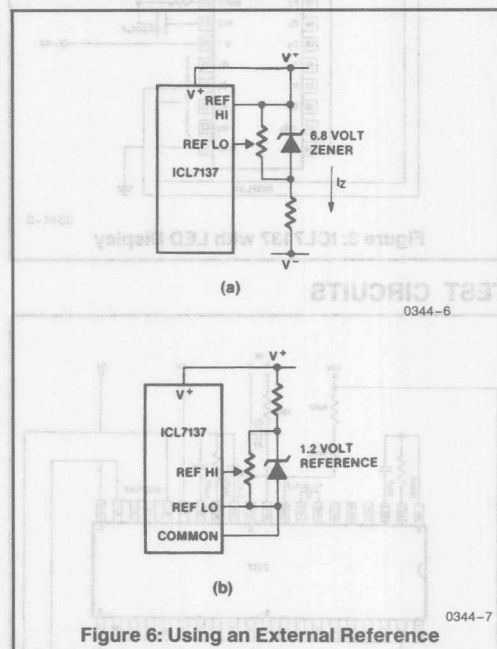

Figure 6: Using an External Reference
The limitations of the on-chip reference should also be recognized, however. The reference temperature coefficient (TC) can cause some degradation in performance. Temperature changes of $2^{\circ}C$ to $8^{\circ}C$, typical for instruments, can give a scale factor error of a count or more. Also, the COMMON voltage will have a poor voltage coefficient when the total supply voltage is less than that which will cause the zener to regulate ($<7V$). These problems are eliminated if an external reference is used, as shown in Figure 6.